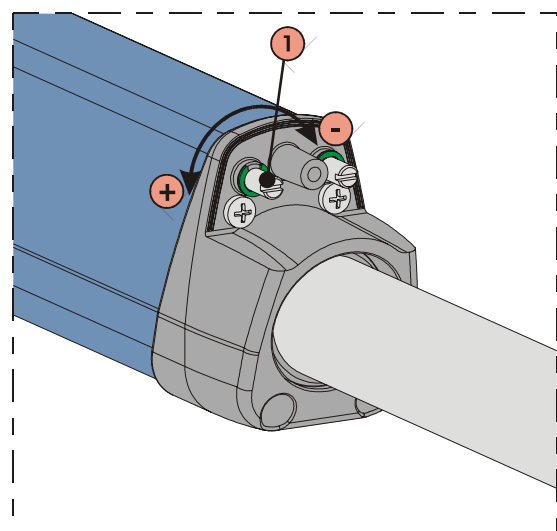

Fig. 21
- 3) To adjust the **opening limit switch FCA** turn the adjusting screw counter-clockwise, Fig.21 ref.1, to increase the rod stroke and clockwise to reduce it.